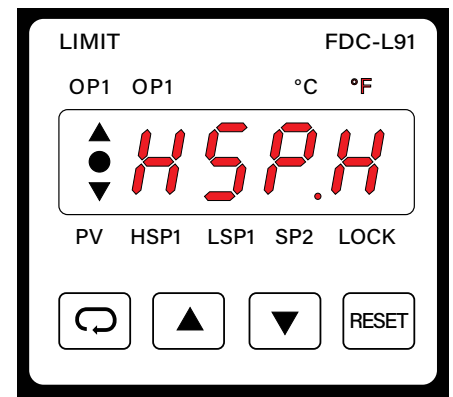

Figure 16
3. Press the SCROLL key until you see "HSP.H". It will flash "2400". (**See Figure 16**).